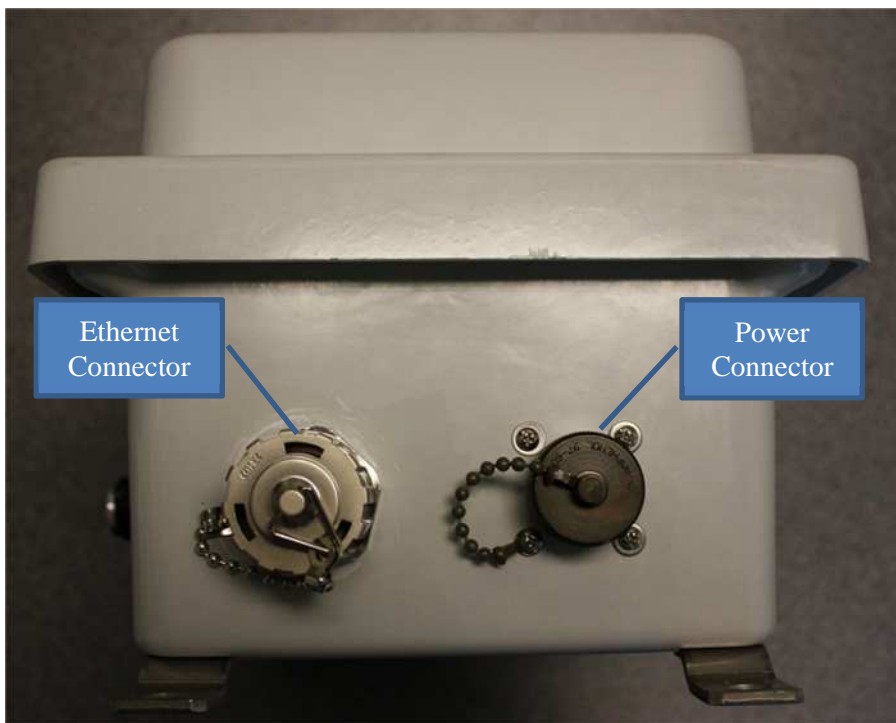

Figure 1 SiteWatch Connectors
1. If the SiteWatch supplied in its own enclosure, then it includes a power/Modbus cable to connect it to the X40 or MCX-32 controller. Connect this cable to the circular connector on the bottom of the SiteWatch enclosure (Figure 1). If the SiteWatch is built in to the X40 or MCX-32, then no additional cabling is needed. Skip to Section 2.3 (Ethernet Interface).
2. Connect a cable from the Ethernet connector on the SiteWatch enclosure (see Figure 1) to the Local Area Network (LAN).